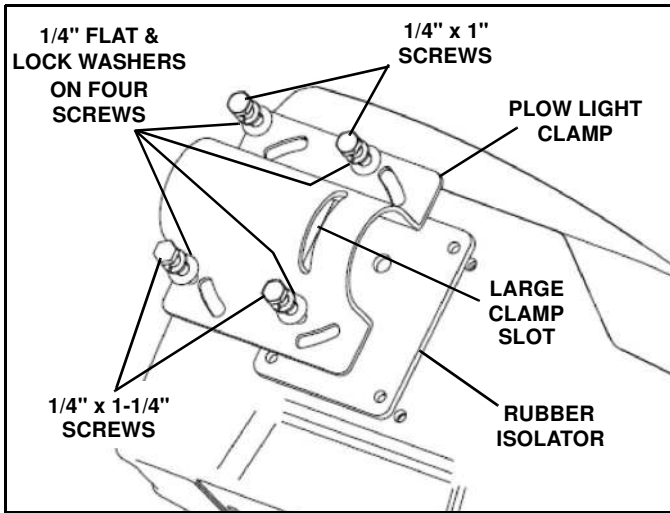

Figure 1-16
13. Position a plow light clamp and rubber isolator on the bottom of each plow light, aligning the corner slots in the clamp with the four holes in the isolator and light housings (See Figure 1-16).